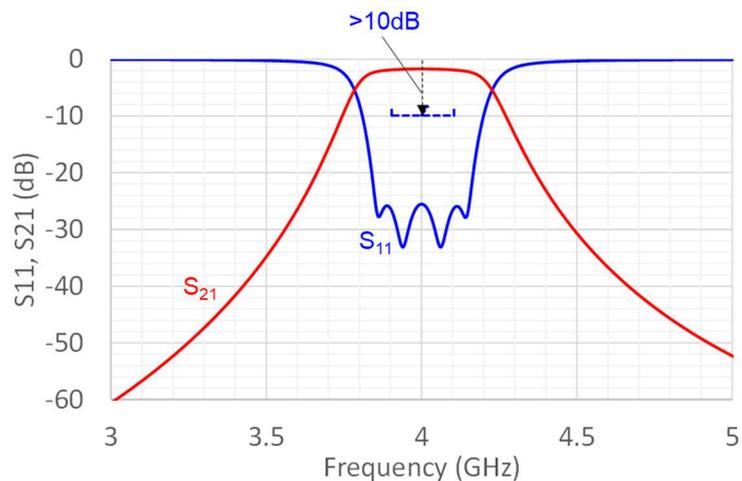

Figure 2. Target specification of S_{11}
- (c) Return loss: The filter should have more than 10 dB return loss over the above mentioned frequency range. (Figure 2)